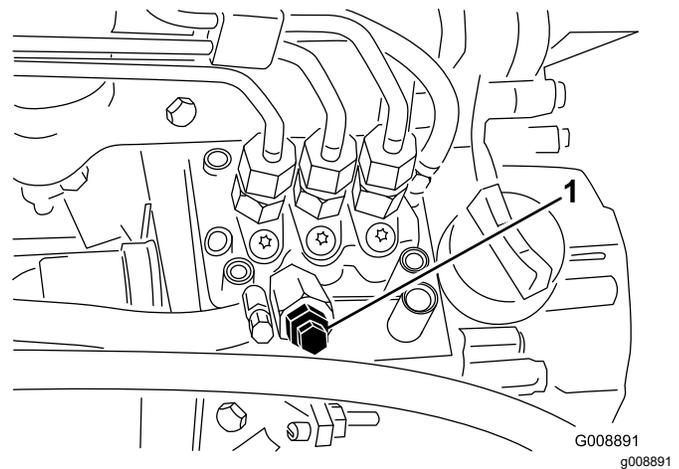

Figure 81
4. Open the air-bleed screw on the fuel-injection pump (Figure 81).